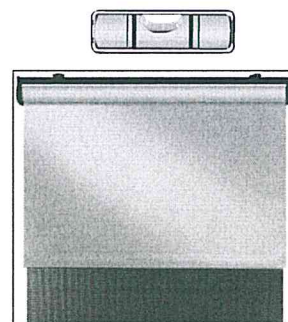

Fig.1
- Install the shade so it's level within the opening. Be sure to use sufficient fasteners to ensure the shade will remain securely in place. (Fig.1)